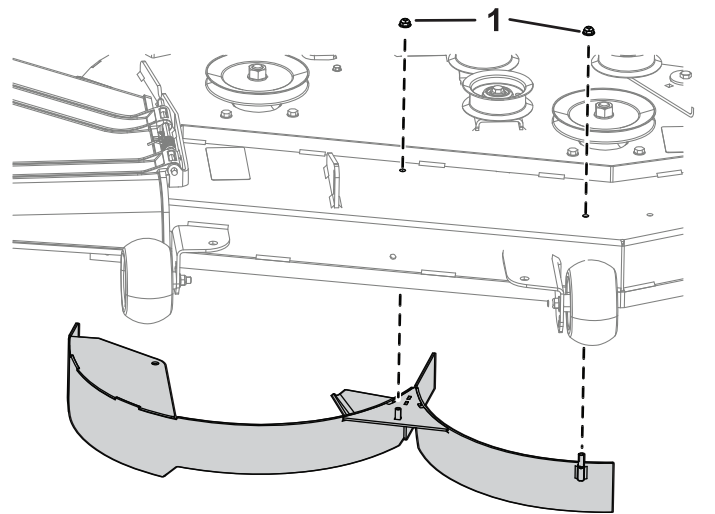

Figure 4
1. Install the right baffle using 2 nuts (5/16 inch) as shown in Figure 4. Tighten the fasteners by hand.